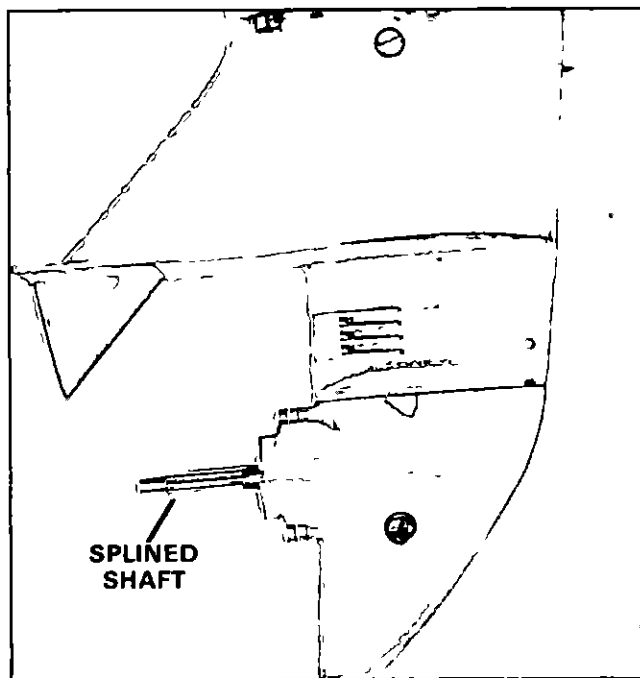

Figure 10 Lubricating Propeller Shaft.
- 5 Lubricate propeller shaft splines with anti-seize lubricant (Special Tool No. T 2987-1) Figure 10.